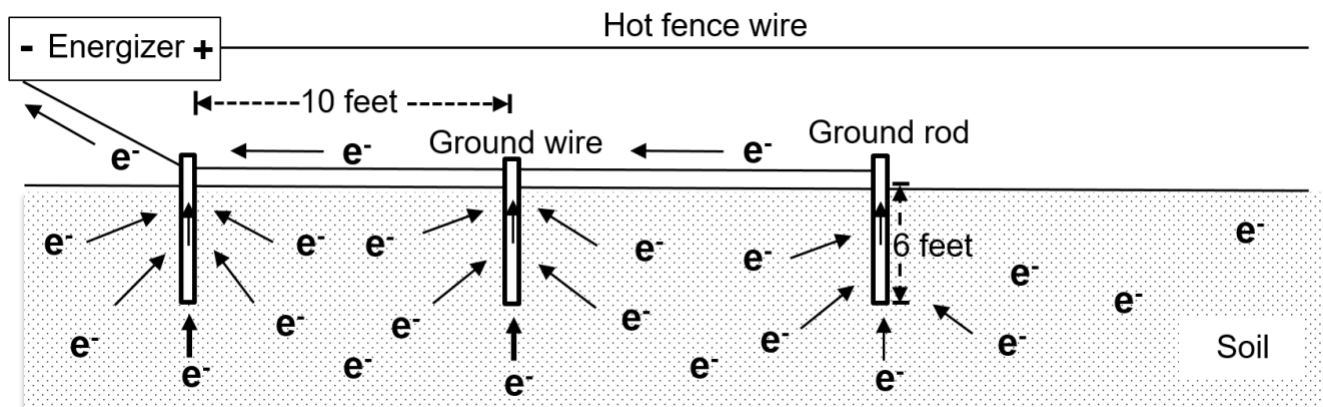

Figure 2. Illustration of electron flow in a properly grounded electric fence system.
3. Place ground rods at least 10 feet apart to minimize electrical resistance and maximize electron flow from the soil and into the grounding system (figure 2)